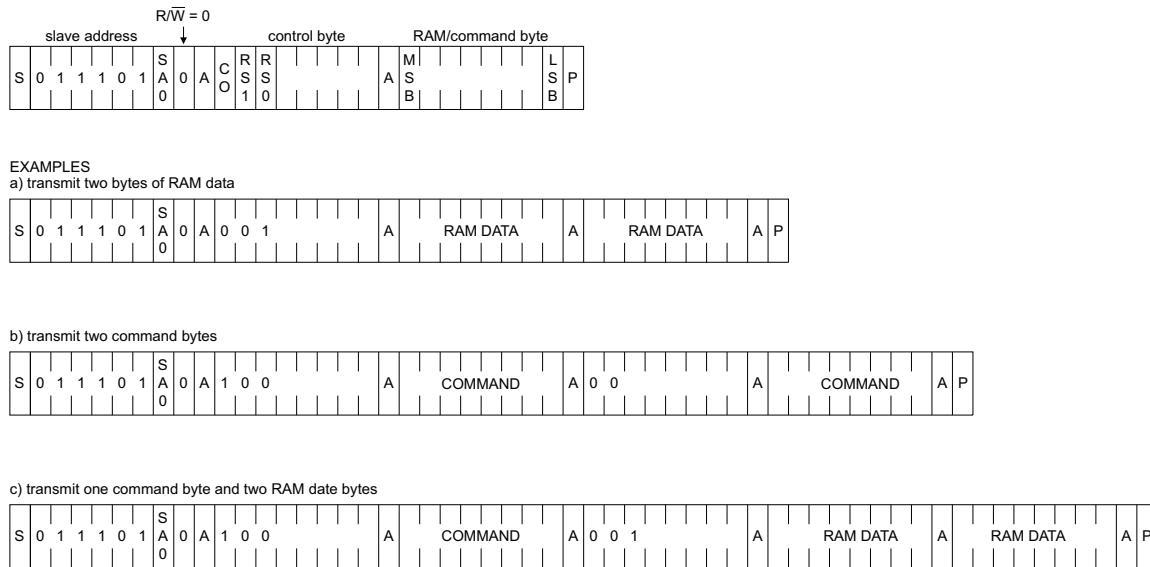

Fig 50. I²C-bus protocol write mode
The I²C-bus protocol is shown in Figure 50. The sequence is initiated with a START condition (S) from the I²C-bus master which is followed by one of the two slave addresses available. All PCA2117 with the corresponding SA0 level acknowledge in parallel to the slave address, but all PCA2117 with the alternative SA0 level ignore the whole I²C-bus transfer.